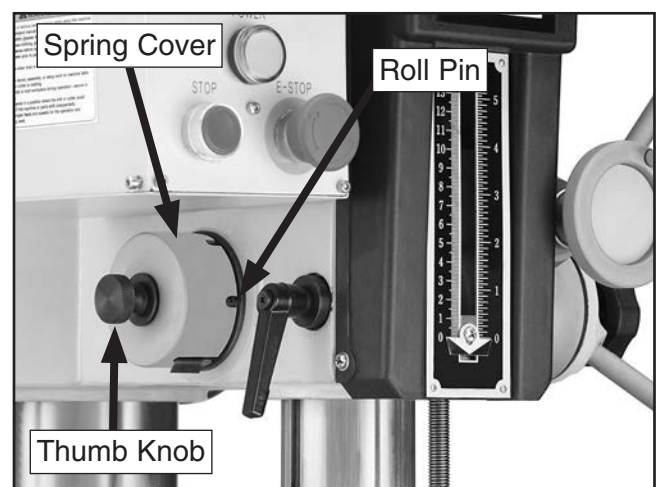

Figure 59. Spring cover.
3. Loosen the black thumb knob shown in **Figure 59** two or three turns. DO NOT completely remove the thumb knob.